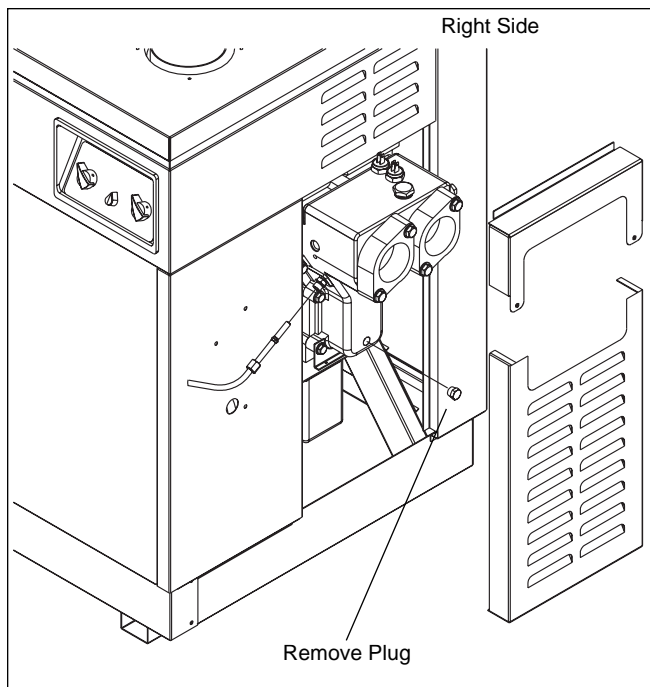

Figure 28. Water header draining.
3. Completely drain the heater before the first frost. To drain the heater, remove the side panel, and remove the drain plug (see Figure 28).
5. Disconnect the copper tubing from the pressure switch fitting (see Figure 28).
1. Attach the pressure switch fitting to the copper tubing (see Figure 28).